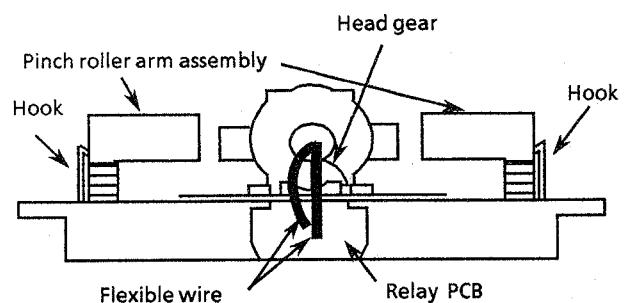

Fig. 13 Bottom view of the cassette mechanism
2. Unsolder the flexible wire on the relay circuit board, and remove the 2 screws ⑤ fixing the head assembly (Fig. 13,14).
2. Remove the hooks fixing the pinch roller arm assembly to remove the pinch roller assembly (Fig. 13).